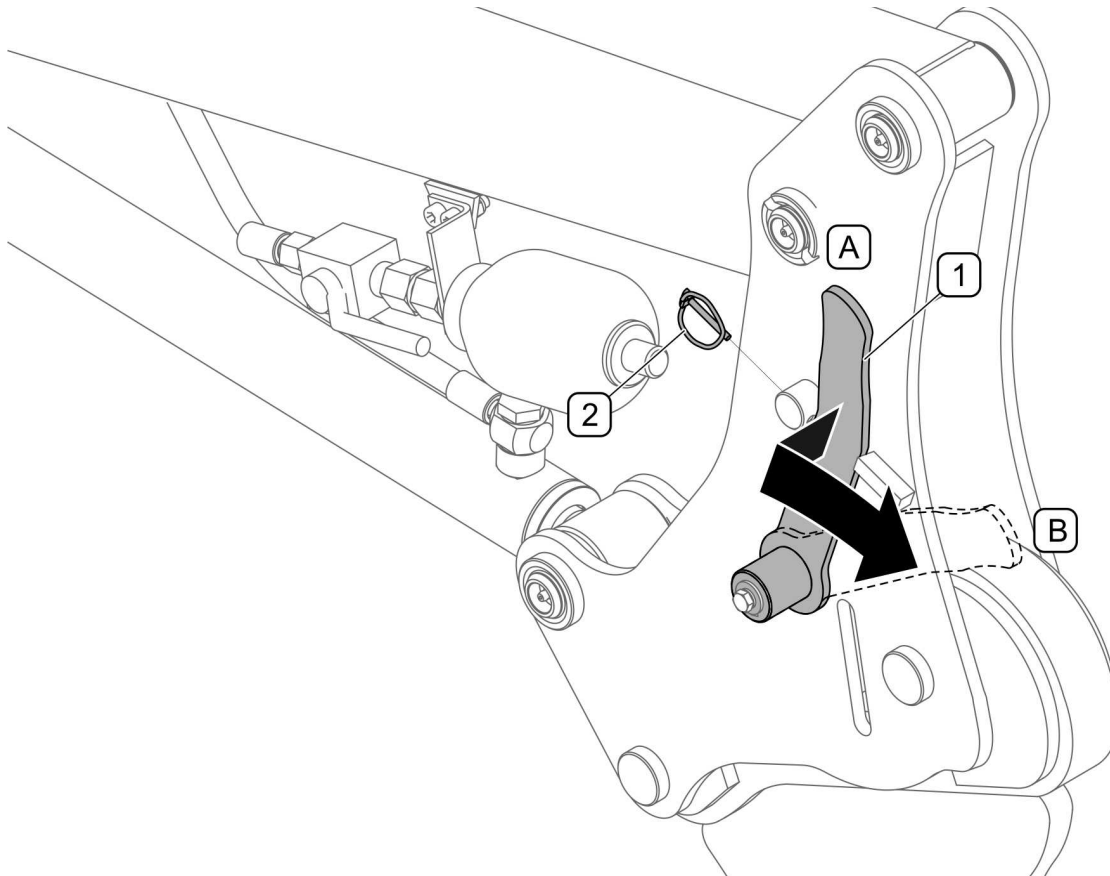

FIGURE 4.23. Disconnecting of the boom from the supporting frame
- Remove the securing cotter (2), (FIGURE 4.23);
- Tilt the lever (1) of the lock and set it to the rear in position (B) "unlocked lever";